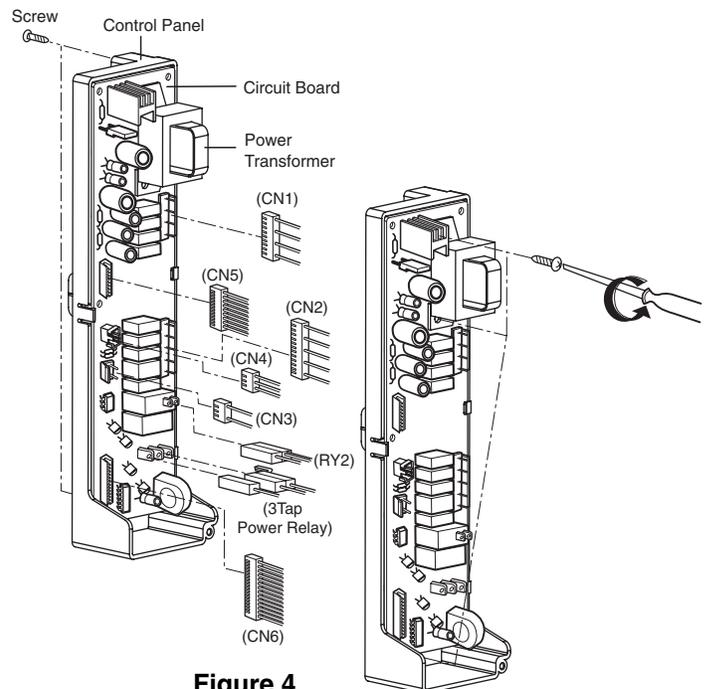

Figure 4
- (4) Remove connectors and lead wires from PCB. (Figure 4)
- (5) Remove the screws on the PCB. (Figure 4)